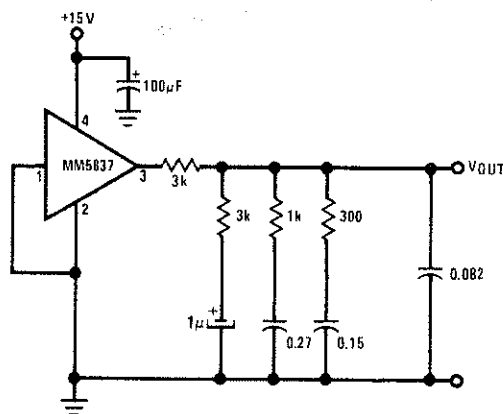

Fig. D-1: Pink Noise Generator
- d) Pink Noise Generator. A suitable circuit is shown in Fig. D-1.